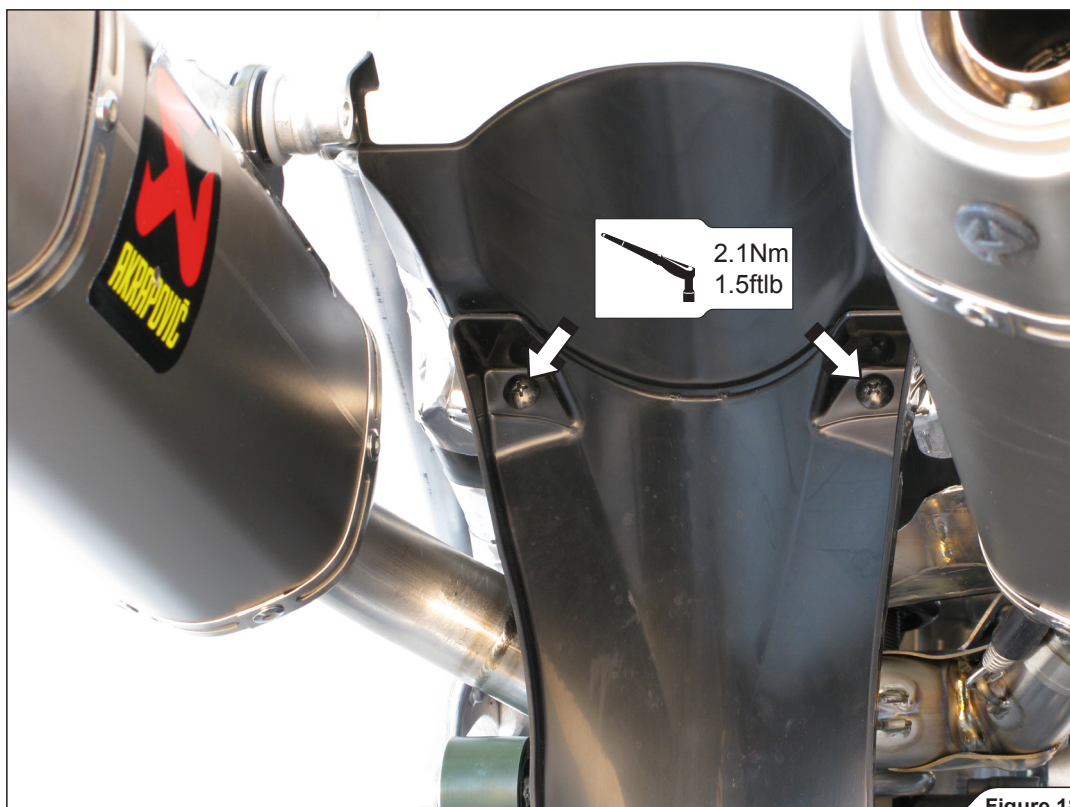

Figure 18
10. Remount the mud guard (**Figure 18**).